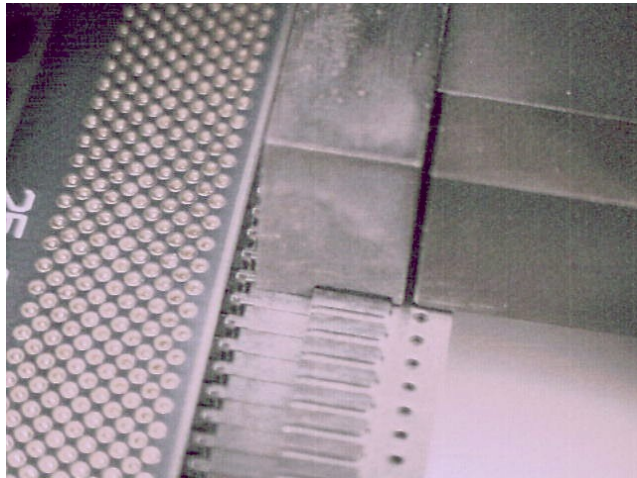

Figure 6
Step 2. Remove the secondary stiffener from the connector using removal Tool No. 600-2036-000. With the side of the tool with the Delrin insert facing up, place the protruding pins downward into the pilot holes. The head of the tool should be positioned such that the slot encompasses the plastic retention tabs on the connector (see Figure 6).